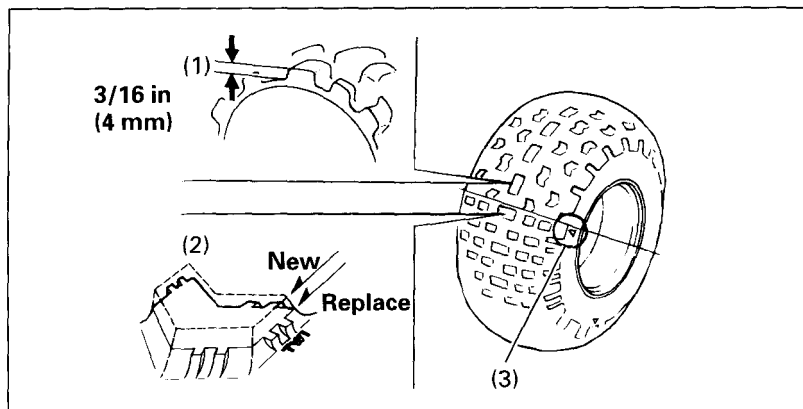

Fig. 4-34
To check the condition of a tire tread, measure the groove depth (1) (Fig. 4-34) in the center of the tire, or check the wear indicator (2). The minimum tread depth is 3/16 in (4 mm). When the tread depth is less than recommended, the tire should be replaced.